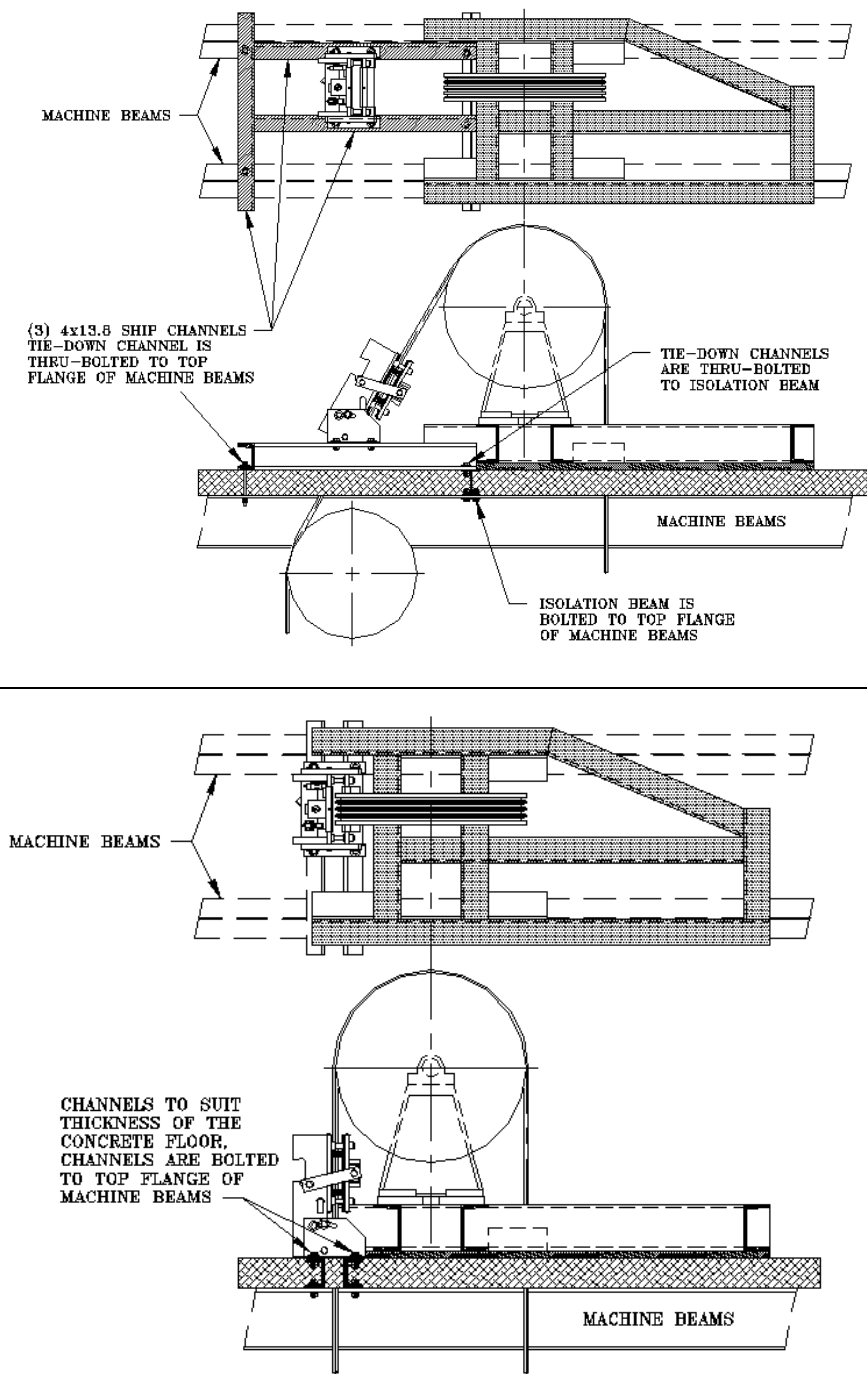

FIGURE 2
- The Mounting Channel Framework must be sufficiently sized to securely hold the “ROPE GRIPPER”[®] and elevator while preventing any sliding. The Traction Machine must also be prevented from sliding. See **Figures 2 and 3** for suggested machine room mountings.